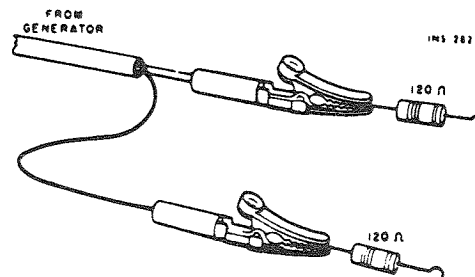
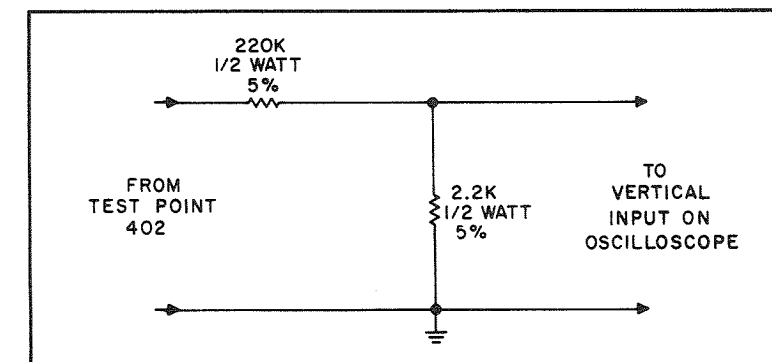

Figure 3. Connections To Provide 300-ohm Generator Output Impedance. Matching Resistors Reduce Generator Voltage By Half At The Antenna Terminals.
Figure 5. Voltage Divider Probe.
- (1) Connect an FM generator to the FM ANTenna terminals. Use a 120-ohm composition resistor in series with each lead from the generator (see Figure 3). Connect a scope and an AC VTVM to either the Left or Right RCDR OUT jack.
- (2) Set FM generator frequency to 88 MHz, modulated with 400 HZ, ± 75 kHz deviation. Press TUNE-O-MATIC pushbutton No. 1 and set the dial pointer to 88 MHz. Set generator output as low as possible.
- (3) Align FM oscillator coil (L504) core first; then align mixer coil (L503) and RF coil (L502) for maximum gain and symmetry.
- (4) Set FM generator frequency and dial pointer to 108 MHz.
- (5) Adjust oscillator trimmer (C512) first; then adjust mixer trimmer (C511) and RF trimmer (C503) for maximum gain and symmetry.
- (6) Repeat alignment several times until accurate dial calibration and maximum gain are obtained. Keep the generator output as low as possible during all adjustments.
- (1) Connect AC VTVM and scope to either Left or Right RCDR OUT jack. Connect DC VTVM to Test Point 302 (on PC3).
- (2) Press TUNE-O-MATIC pushbutton No. 1 and tune to 98 MHz.
- (3) Connect FM signal generator to the FM ANTenna terminals. Use a 120-ohm composition resistor in series with each lead from the generator (see Figure 3).
- (4) Set FM generator output level to 2,000uV, and generator frequency to receiver frequency, modulated with 400 Hz, ± 75 kHz deviation. Adjust top core of Z303 (on IF board) for 0 V DC; AC VTVM should read 1.20 V (± 200 mV).
- (5) Detune FM generator until DC VTVM indicates +1 volt. Turn AFC switch ON. DC VTVM should read a lower value (between 0 volt and +1 volt).
- (6) Turn AFC switch OFF and detune FM generator until DC VTVM indicates -1 volt. Turn AFC switch ON. DC VTVM should read a lower value (between 0 volt and -1 volt).
- (1) Connect RF output of multiplex generator to the FM ANTenna terminals. Use a 120-ohm composition resistor in series with each lead from RF output (see Figure 3). Set MPX generator for external modulation with 19 kHz pilot carrier, ± 7.5 kHz deviation (10% pilot, no audio). Tune one of the TUNE-O-MATIC pushbuttons to the RF frequency of the MPX generator.
- (2) Connect DC VTVM to Test Point 403 (on MPX board).
- (3) Adjust cores of Z401 and Z402 (on MPX board) for maximum reading on DC VTVM.
- (4) Connect output of audio generator, set for 1 kHz, to the external modulation input of MPX generator and to external sync input of an oscilloscope. Adjust audio generator level for composite signal ± 75 kHz deviation (10% pilot, 90% audio). Modulate right channel only.
- (5) Connect AC VTVM to Left RCDR output jack. Connect scope through voltage divider probe (see Figure 5) to Test Point 402 (on MPX board).